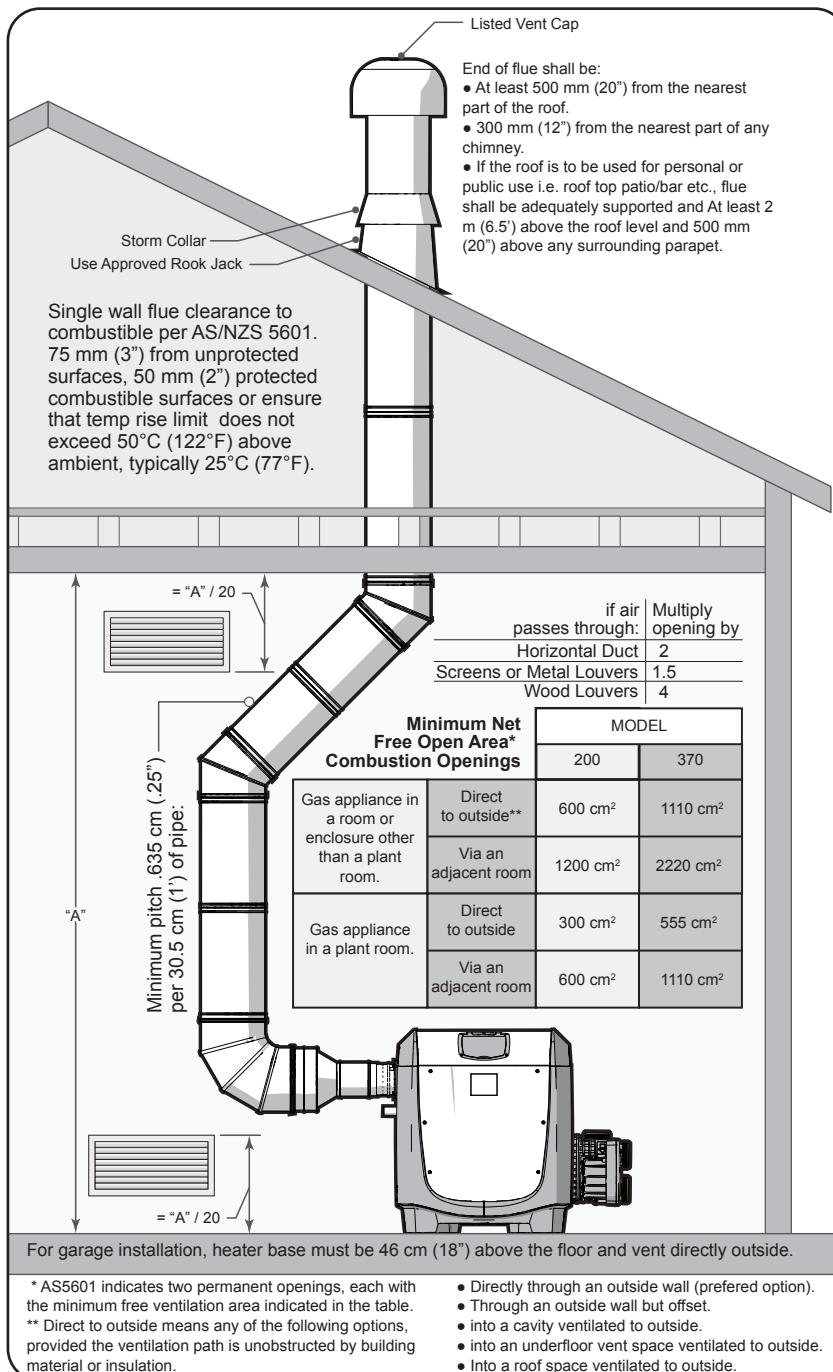

Figure 4. Indoor and Outdoor Shelter Installation
When combustion air is supplied directly through an outside wall, each opening should have a minimum free area of 25.4 mm square (1 in²) per 1.2 kW input of the total input rating of all appliances in the enclosed area. If combustion air must pass through horizontal ducts, each opening should have a minimum free area of 25.4 mm square (1 in²) per 1.2 kW input of the total input rating of all appliances in the enclosed area. Details can be found in *Figure 4*.
The "Minimum Net Free Open Area" information from *Figure 4* is not applicable in installations where exhaust fans or blowers of any type are used. Any equipment which exhausts air from the room where the heater is installed can deplete the combustion air supply or reverse the natural draft action of the venting system. This could cause flue products to accumulate in the room. Additional air must be supplied to compensate for such exhaust. Consult a professional engineer to ensure that installations where exhaust fans or blowers are used are designed and installed in accordance with all applicable local and national installation codes.
- **STATIC PRESSURE - NEGATIVE:** Appliance operates with a negative vent static pressure, a vent gas temperature that avoids excessive condensate production and will vent vertically terminating at the roof. Termination must pass through a properly installed and approved roof jack, a properly sized storm collar and a listed vent cap. See *Figure 4*.
- Horizontal runs of vent piping may be used but must not exceed 4.9 m (16 ft.) in length and must always maintain the minimum pitch/slope for any horizontal runs, as specified in *Figure 4*.